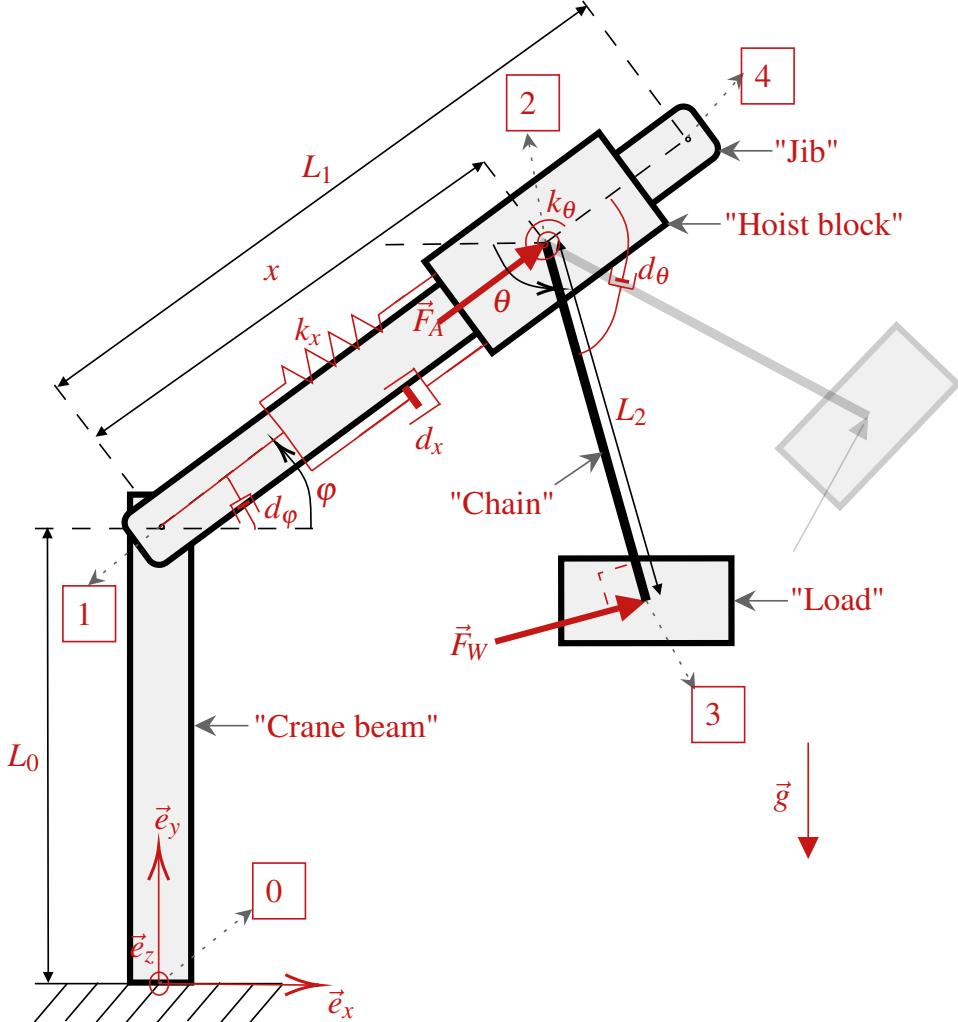

Figure 2: Schematic drawing of crane system.
To determine whether such a control solution is feasible for luffing cranes that are used outside, it is decided to first investigate a simple version of the problem in two dimensions. Figure 2 shows a schematic drawing of this two dimensional version of the crane, together with the terminology that will be used throughout the challenge.
- $\boxed{0}$, $\boxed{1}$, $\boxed{2}$, $\boxed{3}$ & $\boxed{4}$ in Figure 2 are specific points on the crane.
Consider the Crane as depicted in Figure 2 for the following questions: